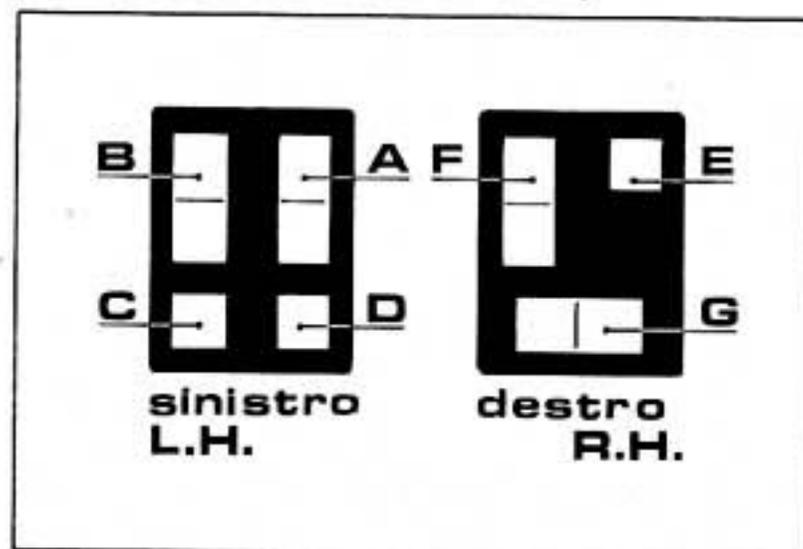

Fig. 24
11) Controls on the handlebar (see Fig. 24)